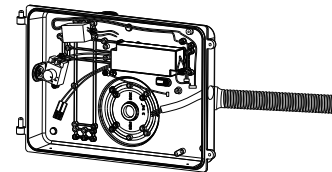

Fig. 2-3A
3. Make wiring connection from side and go through isolation treatment; Tighten the pipe on the luminaire. (Fig. 2-3A&B)